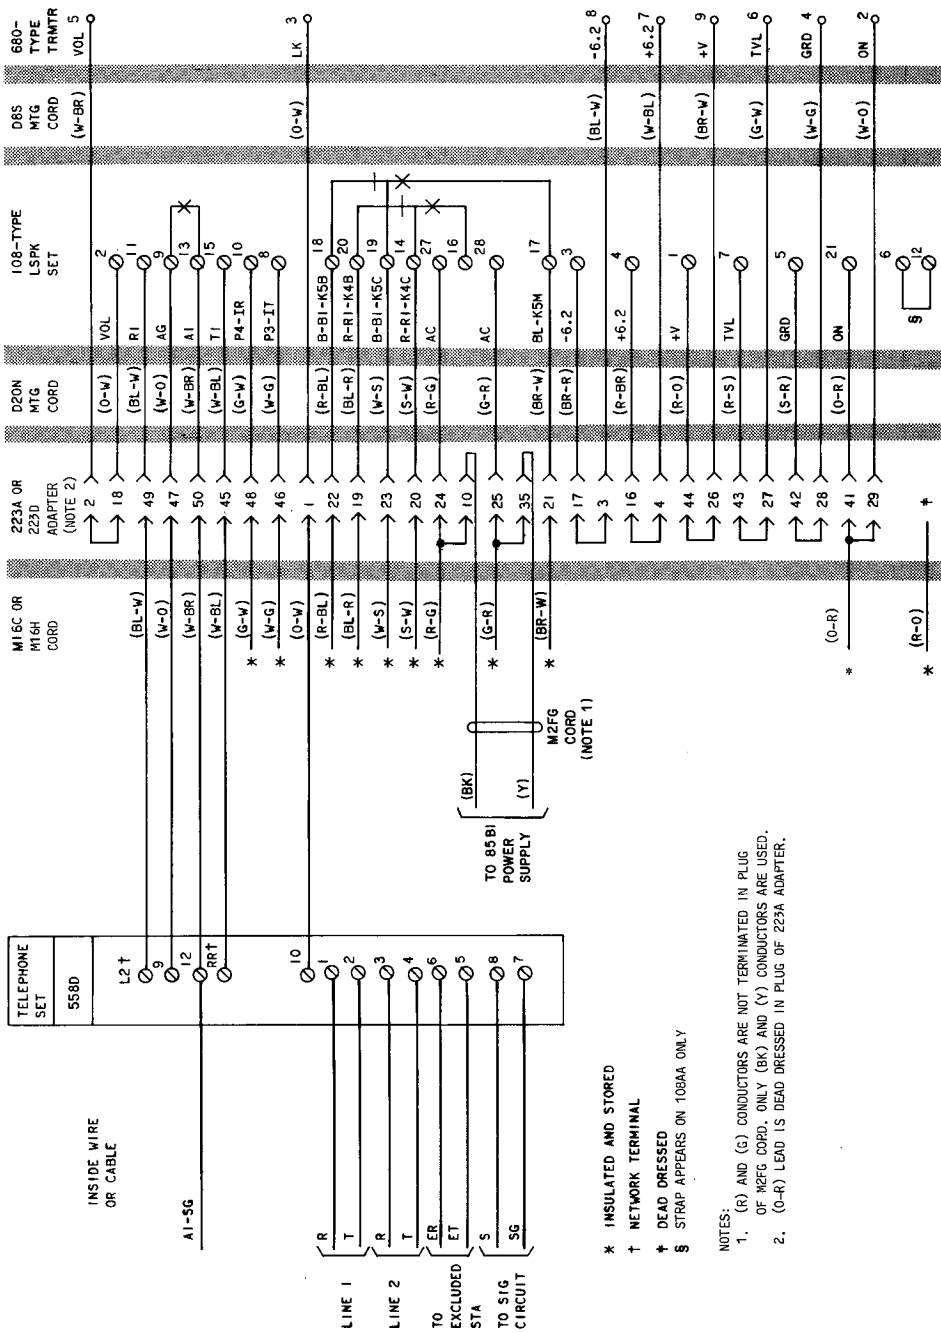

Fig. 3 — Typical Grandfathered 4A Speakerphone System Arrangement, Connections to 558D Telephone Set
1.03 To provide 4A speakerphone feature at the 558- and 2558-type telephone sets, refer to Fig. 1 or 2 for layout arrangement of the components required for the system and Fig. 3, 4, 5, or 6 for individual lead connections.